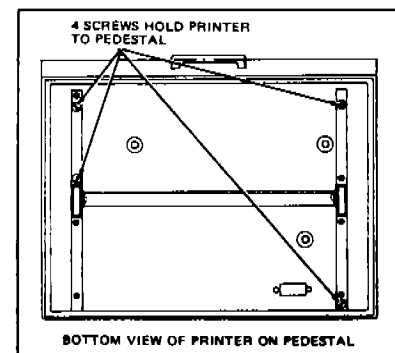

Figure 11
d. Locate the four threaded holes in printer bottom that did **not** retain the rubber feet removed in step c. These holes will receive screws that hold the printer to the pedestal (figure 11). Run 10-32 screws or tap into each of these holes to clear paint residue from threads.
e. Raise printer and rest it on pedestal, aligning holes prepared in step d, with matching holes in top bars of pedestal (figure 11).